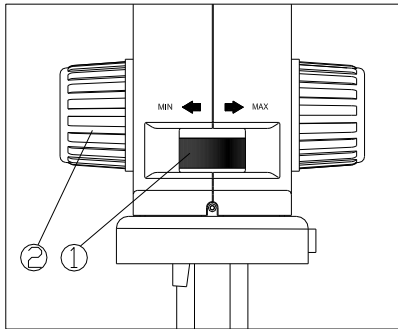

Fig. 9
- 1) Rotate the zoom adjustment ring① to the maximum magnification.
- 2) Observe the output image, if it is not clear, rotate the focusing knob② to make it clear.
- 3) Rotate zoom adjustment ring to the minimum magnification. Observe the output image until it is clear. (See Fig.9)